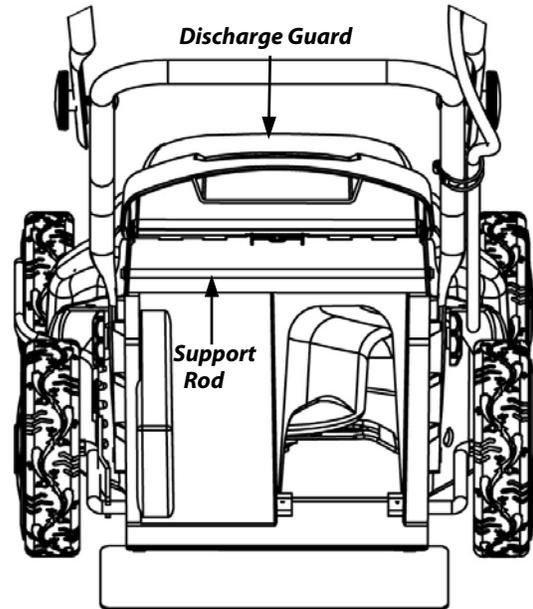
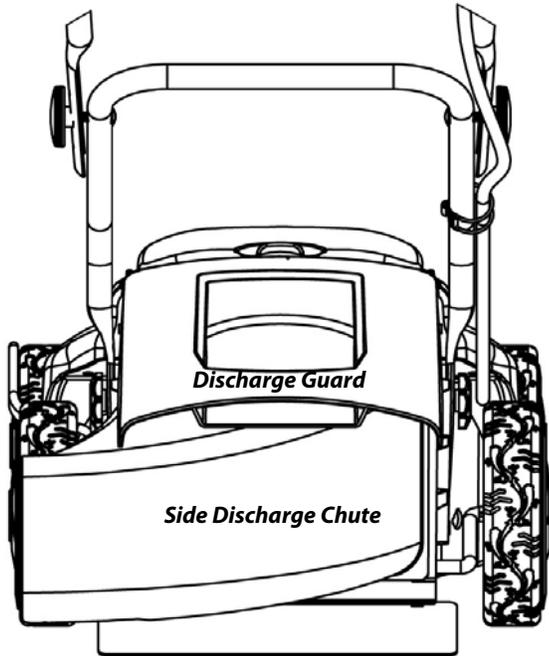
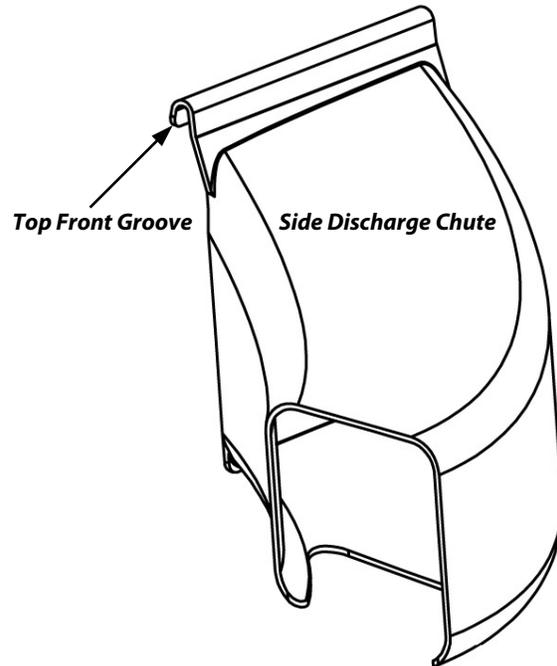

Figure 12
Figure 15
Figure 16
1. Raise the Discharge Guard on your Mower (**Figure 12**) and note the metal Support Rod at the rear of the Mower.
The Side Discharge Chute (**Figure 15**) allows for proper discharge of the grass, which prevents clogging.
1. Raise the hinged Discharge Guard on the back of the Mower (**Figure 12** on the previous page).
2. Position the Top Front Groove (**Figure 16**) of the Chute over the Support Rod (**Figure 12**) and lower the Chute into place (**Figure 15**).